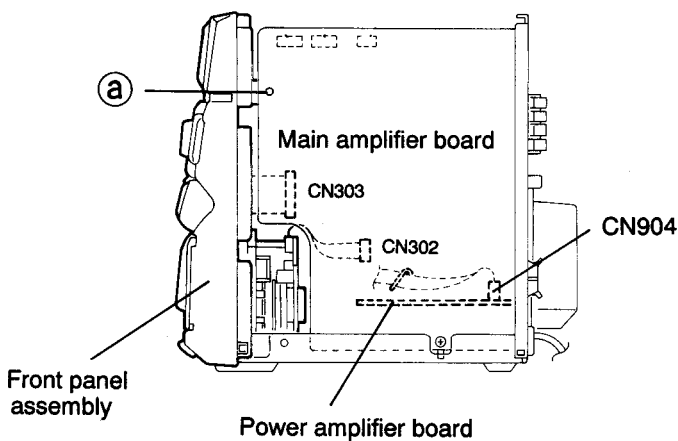

Fig.5-8
5. Disconnect the card wires connected to the front panel assembly from connectors CN302 and CN303 on the main amplifier board.(See Fig. 5-8)
6. Remove the wire clamp holding the parallel wires protruding from the front panel assembly and the parallel wires protruding from the power supply board.(See Figs. 5-8, 5-9)
7. Disconnect connector CN904 on the power amplifier board and then disconnect the parallel wires protruding from the front panel assembly.(See Figs. 5-8, 5-9)